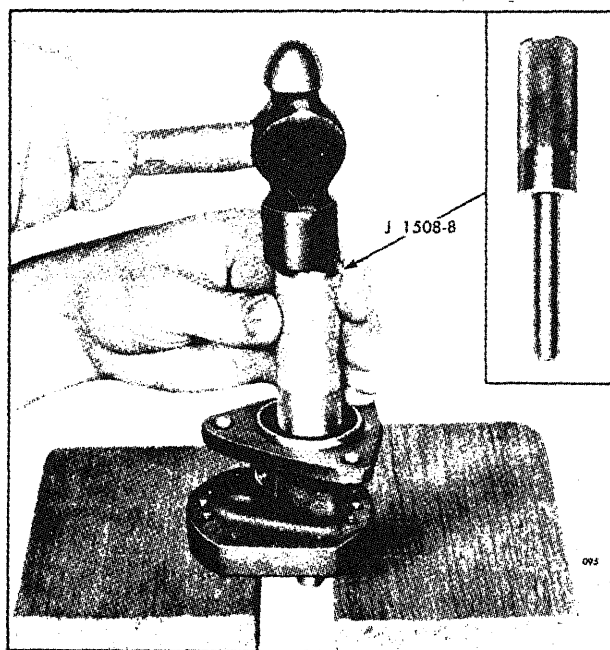

Fig. 6 - Installing Inner Oil Seal
- b. With the pump body supported on wood blocks, insert the oil seal and tool in the pump body and drive the seal in until it bottoms in the counterbore (Fig. 6).